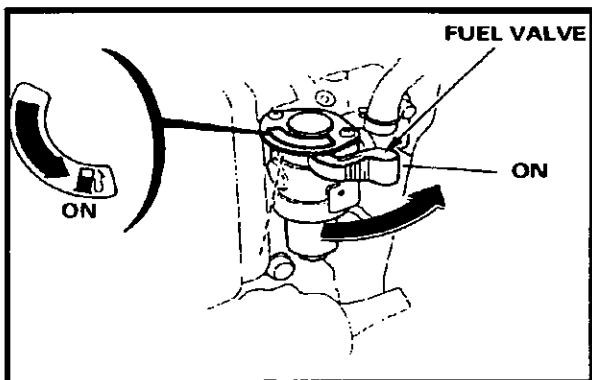

Figure 5-4. Fuel ON/OFF Valve
1. Open the fuel cock located under the fuel tank, Refer Figure 5-4.